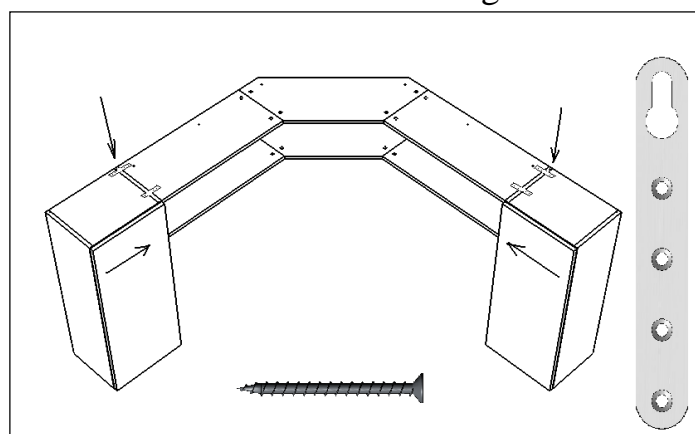

Fig. 45
- insert eccentric connections (4) into side holes of parts (2) and (3) and securely tighten the parts, alternately clamping the eccentrics;
- connect the parts (5) and (7) to the resulting assembled elements using the screw-strainers 7x50 (6);
- the shelf is additionally fixed to adjacent cabinets (Fig. 45):